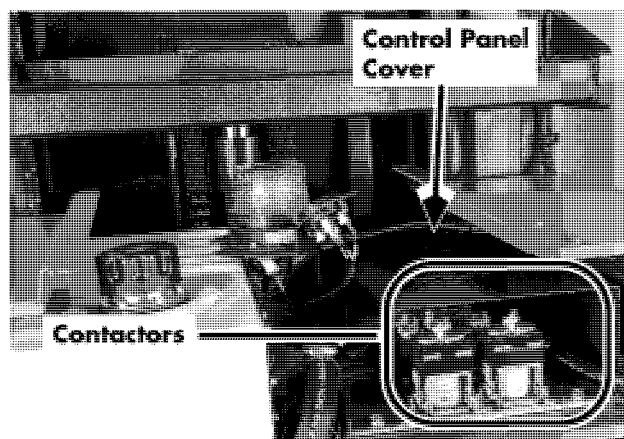

Figure 7-69. Top of Tractor
3. Remove control panel cover. See Figure 7-69.